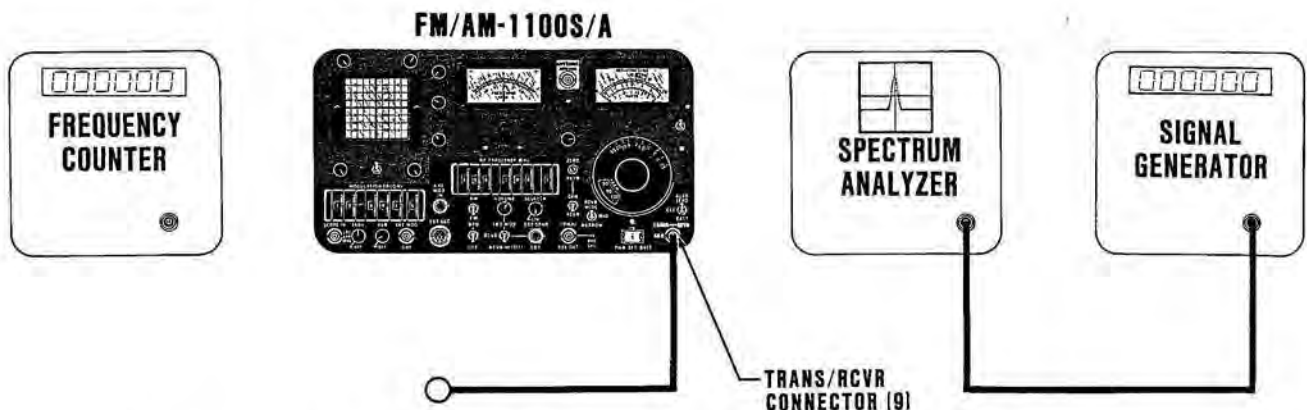

Figure 3-40 Signal Generator Test Set-Up Diagram
| 2. | Connect coax cable between input of Spectrum Analyzer and output of Signal Generator as shown in Figure 3-40. |
| 3. | Connect a second coax cable to TRANS/RCVR Connector (9) of FM/AM-1100S; leave other end unattached. (See Figure 3-40.) |